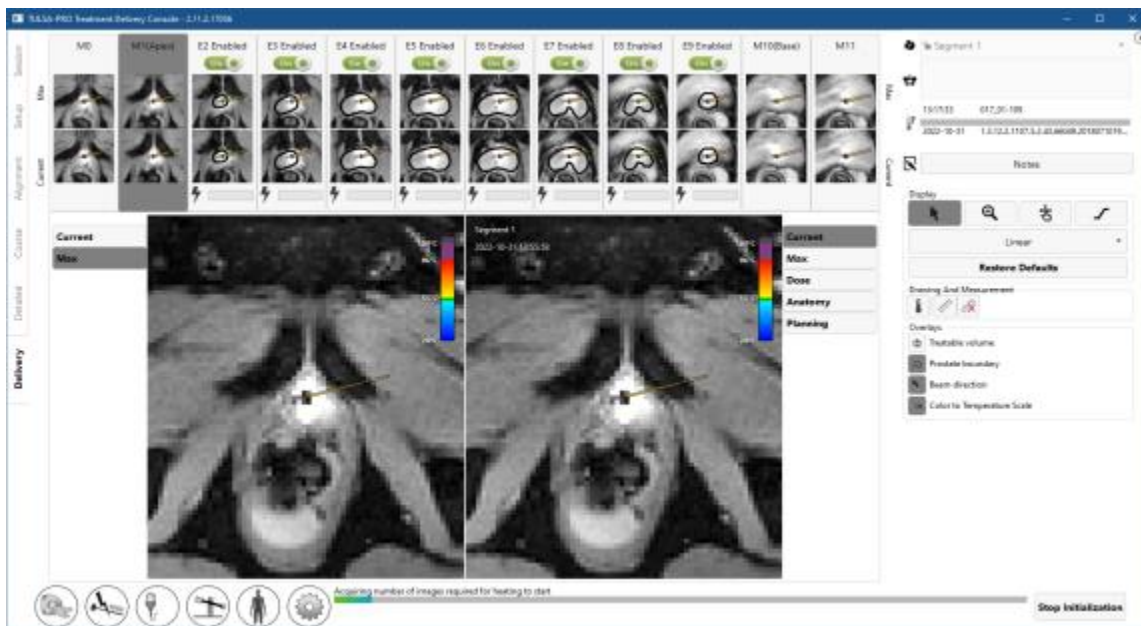

Figure 44: Treatment Initialization state
- Radiologist:** Click **Start treatment** on TDC. A window will prompt you to verify the core body temperature using an external temperature measurement device before proceeding (10). Enter the temperature in degrees Celsius and click **Confirm**. The software will enter the **Treatment Initialization** state where it will wait to receive thermometry images (Figure 44).